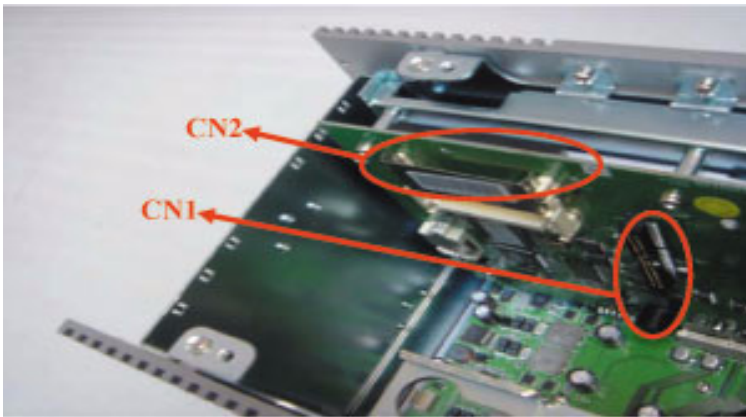

Figure 3.1: Location of IDE Connector (CN1 and CN2)
5. Connect the IDE flat cable to Primary (recommended; CN1 of mainboard) or secondary IDE connector (CN2 of mainboard), then connect the other side of the connector to the hard disk. (Figure 3.1)